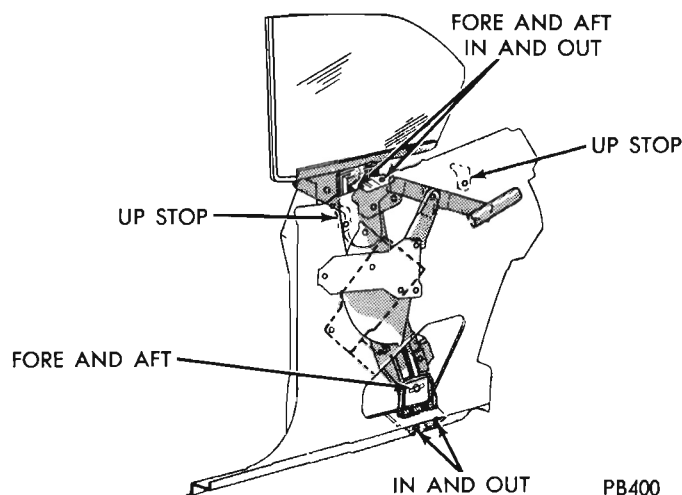

Fig. 8 - Rear Quarter Glass Adjustments
- (1) With door closed, adjust quarter window track (Fig. 8) at upper attachment until rear of glass lightly touches belt line weatherstrip.
- (2) Raise window seating top of glass against roof rail weatherstrip and front of window level with top of front door window.
- (3) Adjust upper track until front of window is aligned with rear of front door window.
- (4) Adjust lower front until front of window is aligned rear of front door window at roof rail.
- (5) Adjust pivot bracket until top of window is